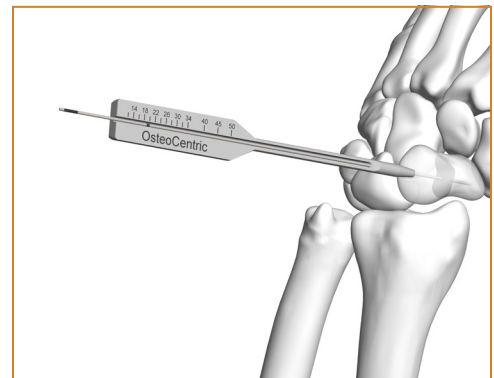

Figure 2
**Note:** A parallel wire guide is available to aid with guidewire placement and to protect soft tissues during guide wire placement. If the fragment is unstable, it may be helpful to use the Parallel Wire Guide to place an additional guide wire parallel to the first one to stabilize and minimize rotation of the fragment (Figure 2).